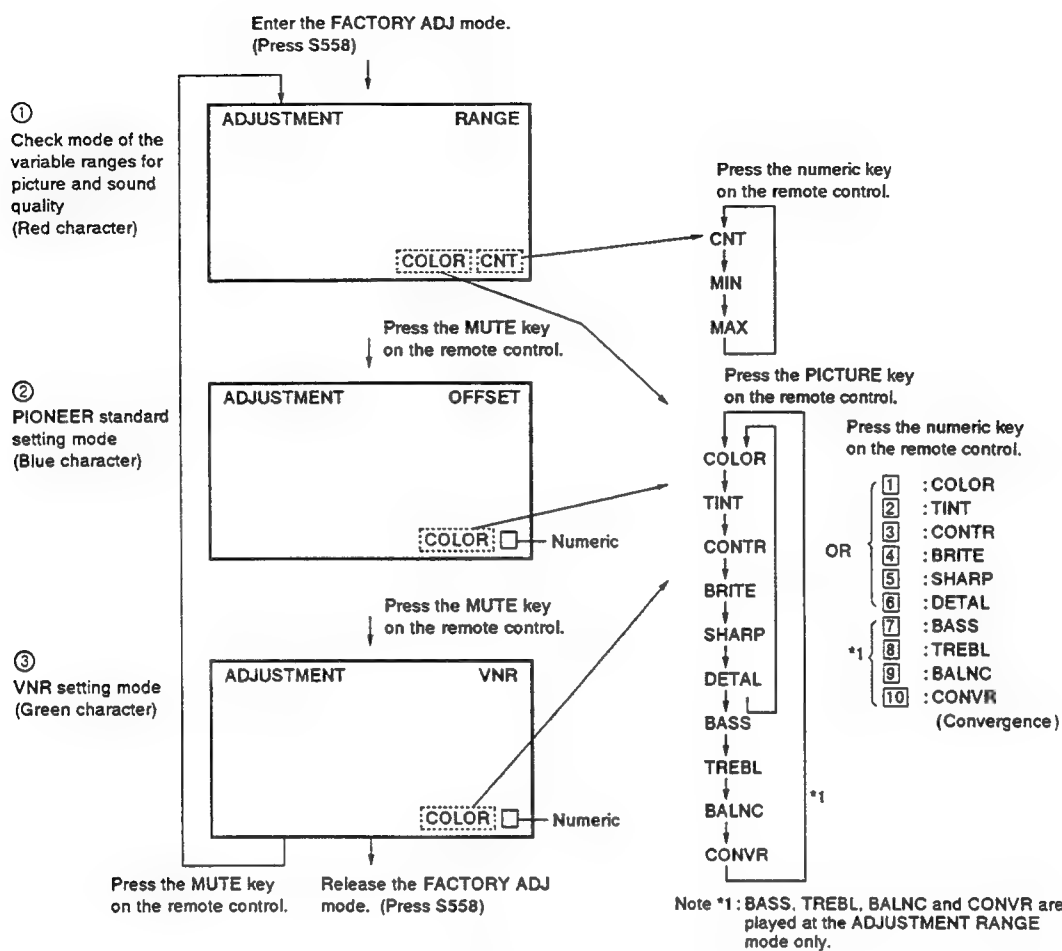

Fig. 9-1-1 Screen display of the FACTORY ADJ mode
FACTORY ADJ mode is activated by pressing S558 at the front panel with a small screwdriver or equivalent. Then the display for ADJUSTMENT RANGE mode will appear on the screen, as shown in Fig. 9-1-1 ①.
ADJUSTMENT RANGE mode is changed to ADJUSTMENT OFFSET mode by pressing the MUTE key on the remote control, as shown in Fig. 9-1-1 ②.
ADJUSTMENT OFFSET mode is changed to ADJUSTMENT VNR mode by pressing the MUTE key on the remote control, as shown in Fig. 9-1-1 ③.